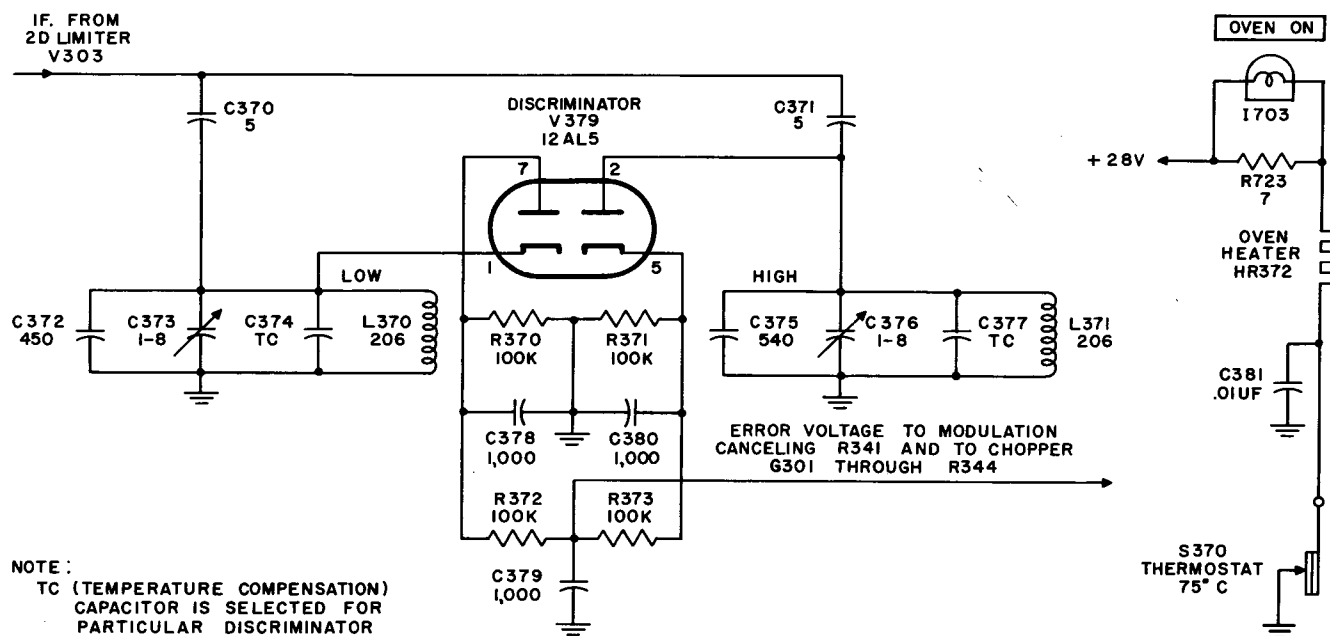
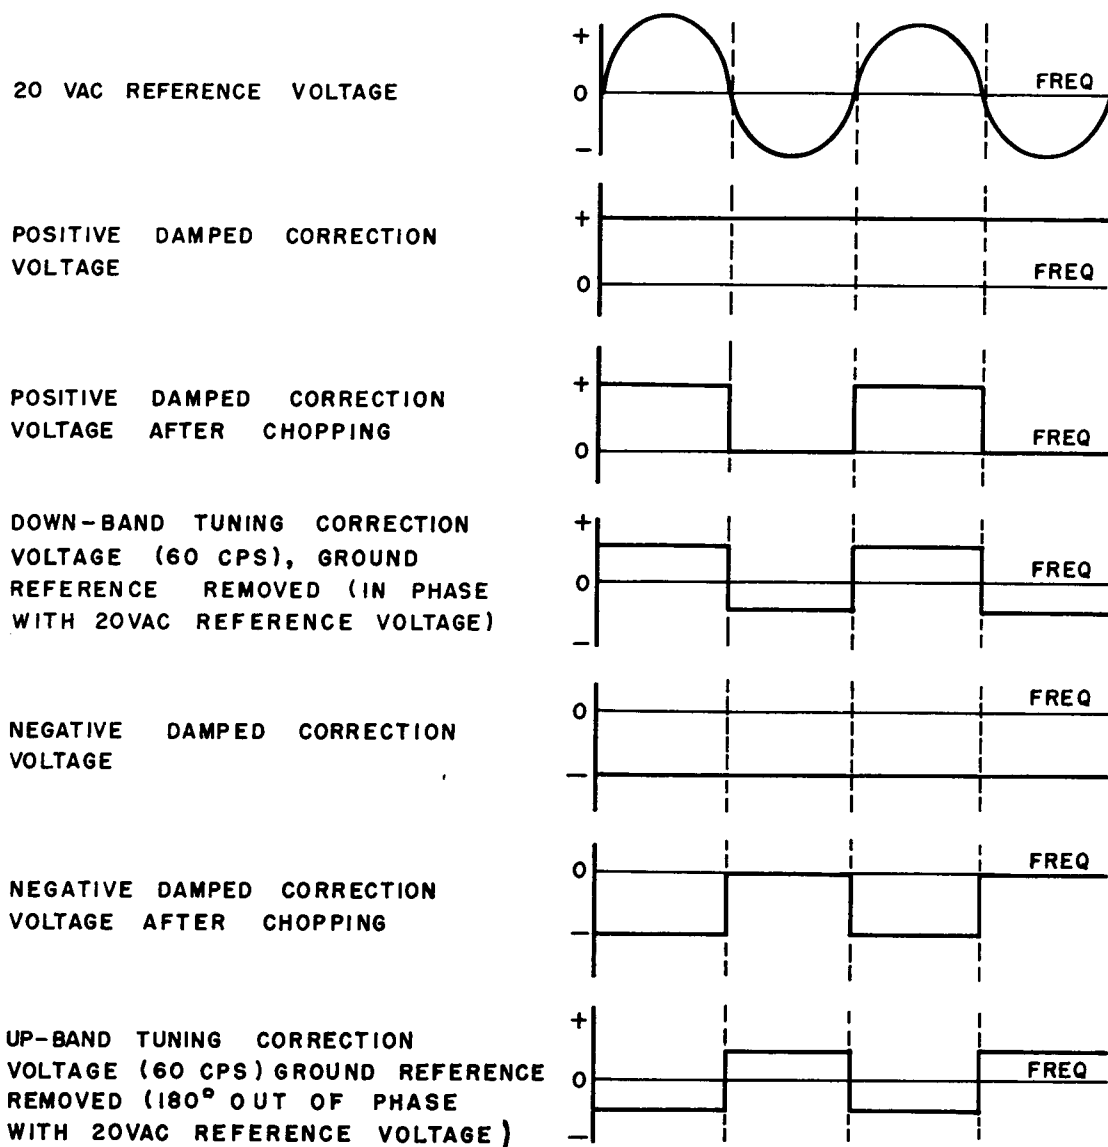

Figure 58. Discriminator, simplified schematic diagram.
Figure 59. Phase relationship between chopper output and 20 v ac reference voltage.
88. Discriminator V379 (fig. 58)
d. The output from the low responsive half of the discriminator tube appears on the plate (pin 7) across the load resistor R370. This half of the discriminator tube operates as a detector with a negative envelope output. Capacitor C378 is a filter capacitor which maintains the output voltage at a high negative level, thus smoothing out the envelope. Therefore, the output from the low responsive half of the discriminator circuit is negative and becomes more negative as the frequency of the input signal decreases. The negative output signal is applied to the discriminator voltage division circuit, R372 and R373. Figure 58 shows this negative output.
e. The positive voltage output from the cathode (pin 5) and the negative voltage output from the plate (pin 7) combine in the voltage division circuit, R372 and R373, to produce the error voltage output. One end of the voltage division circuit, R372, receives the negative voltage. This voltage varies nonlinearly from a negative maximum at 447 kc to nearly zero at 463 kc. The other end of the voltage division circuit, R373, receives the positive voltage. This voltage varies nonlinearly from a positive maximum at 463 kc to nearly zero at 447 kc. Thus opposite ends of the voltage division circuit receive voltages of opposite polarity. By taking the average voltage from the center of the voltage division circuit the nonlinear characteristic of the two input voltages cancel and the output is linear between certain frequency limits. The output voltage from the center of the voltage division circuit, between R372 and R371, is the error voltage and represents the deviation of the input signal from 455 kc. Figure 58 shows the results of averaging the positive and negative outputs from the discriminator. The capacitor C379 filters any harmonics from the output signal that may remain after the initial filtering by capacitors C378 and C380. The error voltage varies linearly from -4.2 v with a 452 kc input signal to +4.2 v with a 458 kc input signal. Therefore, a negative error voltage indicates an if. input signal below 455 kc to the radio frequency amplifiers; a positive error voltage indicates an if. input signal above 455 kc. The error voltage output from the discriminator circuit over this range is approximately 1.4 mc per cycle deviation. Figure 59 shows a typical discriminator characteristic. The error voltage from the discriminator results from either or both of two causes: (1) the mean carrier frequency output from the radio frequency oscillator is slightly different from the frequency to which the radio receiver is tuned, (2) frequency modulation or phase modulation is present. The latter of these is to be expected. Therefore, the modulation canceling circuit receives the error voltage and cancels out that portion due to modulation. The chopper G301 also receives the error voltage directly for conversion into an ac signal which is used during calibration (par. 91).
a. The chopper is an electrical vibrator which makes and breaks a circuit at 60 cps and is used to convert the dc damped correction voltage into 60 cps square wave voltage. The chopper is located on the if. amplifier subchassis. The phase relationship between the output from the chopper and the 20 v ac power supply is important (fig. 59), since it is this phase relationship which determines the direction of the servo tuning operation. The 20 v ac power supply operates the chopper to make the contact (3-4) on the negative cycle and to break the contact (3-4) on the positive cycle. The chopper receives the damped correction voltage